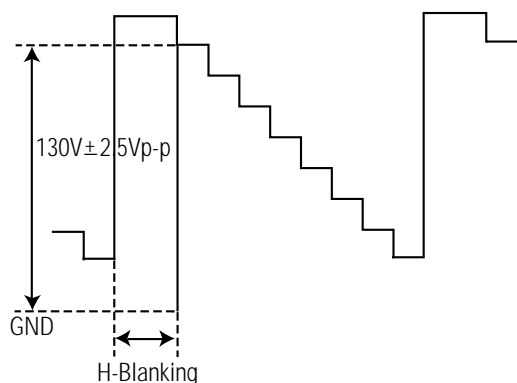

Fig. 4-1
4. Adjust the Screen VR (on the FBT) so that the voltage (See Fig.4-1.) on the oscilloscope becomes $130 \pm 2.5V$.
3. Plug the convergence yoke into the CRT and set in as shown in Fig. 4-1.